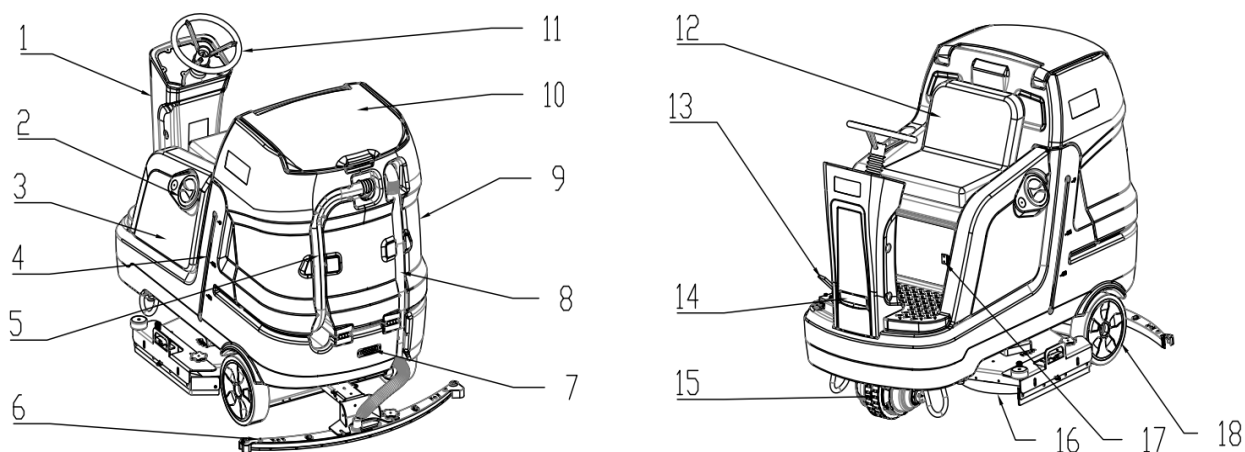

Figure 1
1. Open the recovery tank lid(10, Fig.1) to check if the recovery tank (9, Fig.1) is empty, if not, drain it through the drain hose (5, Fig.1).